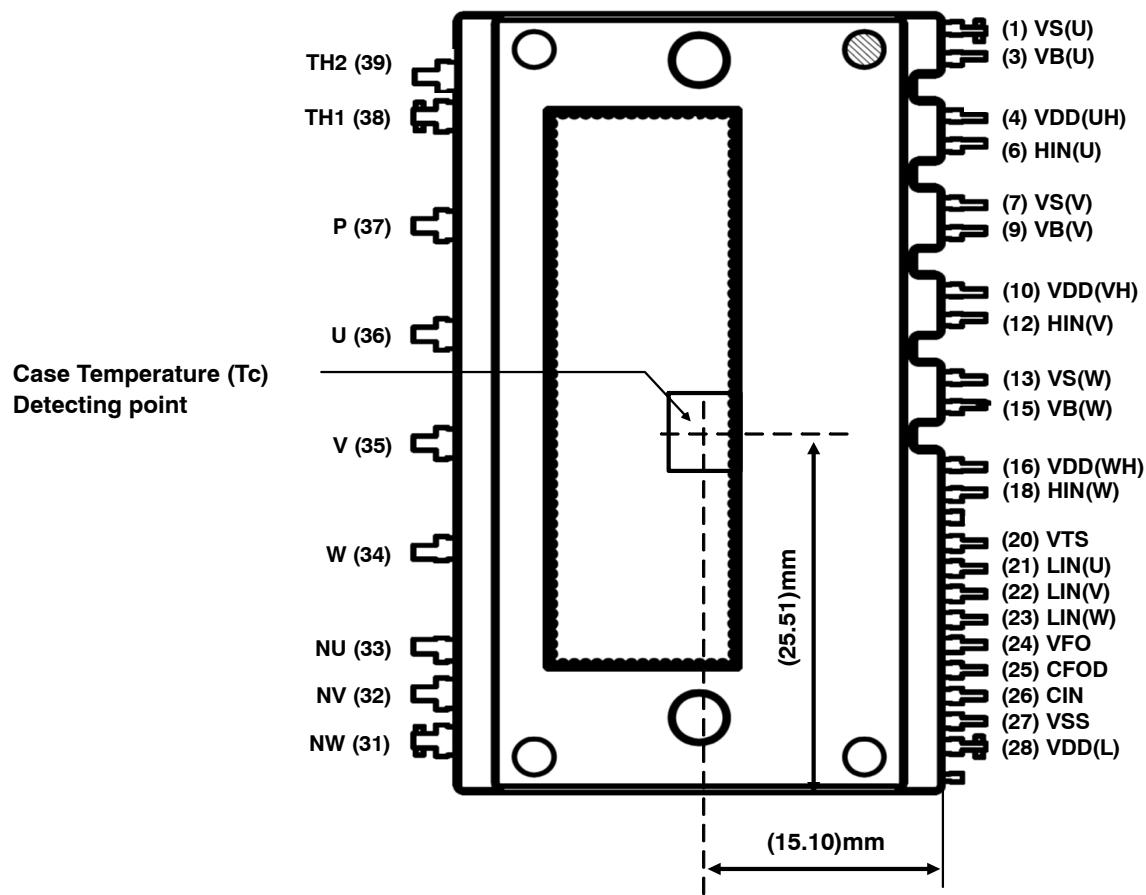

Figure 2. Pin Configuration – Top View
3. For the measurement point of case temperature (T_c), please refer to Figure 2.